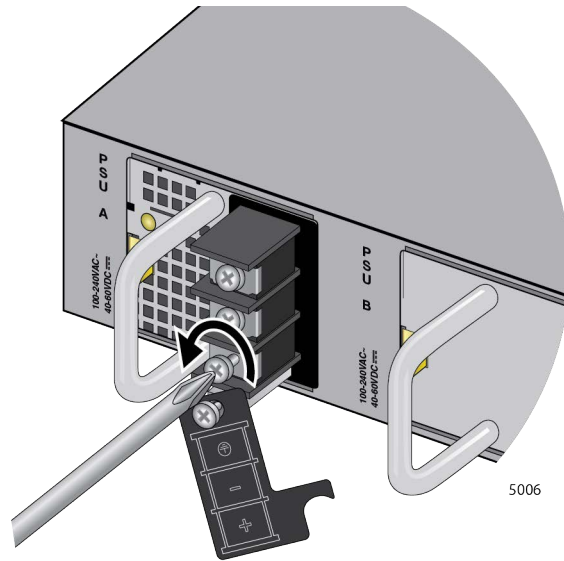

Figure 64. Loosening the Ground Screw
4. Loosen the ground screw with a Phillips-head screwdriver. Refer to Figure 64.